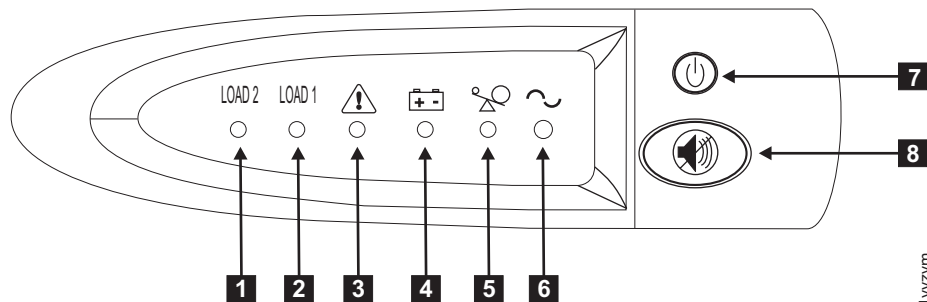

Figure 311. 2145 UPS-1U front-panel assembly
12. To turn on the 2145 UPS-1U, press and hold the on/off button (**2** in Figure 311). On some versions of the 2145 UPS-1U, you need a pointed device, such as a screwdriver, to press the on/off button. The 2145 UPS-1U undergoes a self-test, taking approximately five seconds, before the power-on indicator **1** and the load indicators (**7** and **8**) light up permanently to indicate that the 2145 UPS-1U is supplying power to the SAN Volume Controller. The 2145 UPS-1U begins to charge its battery while in normal mode.